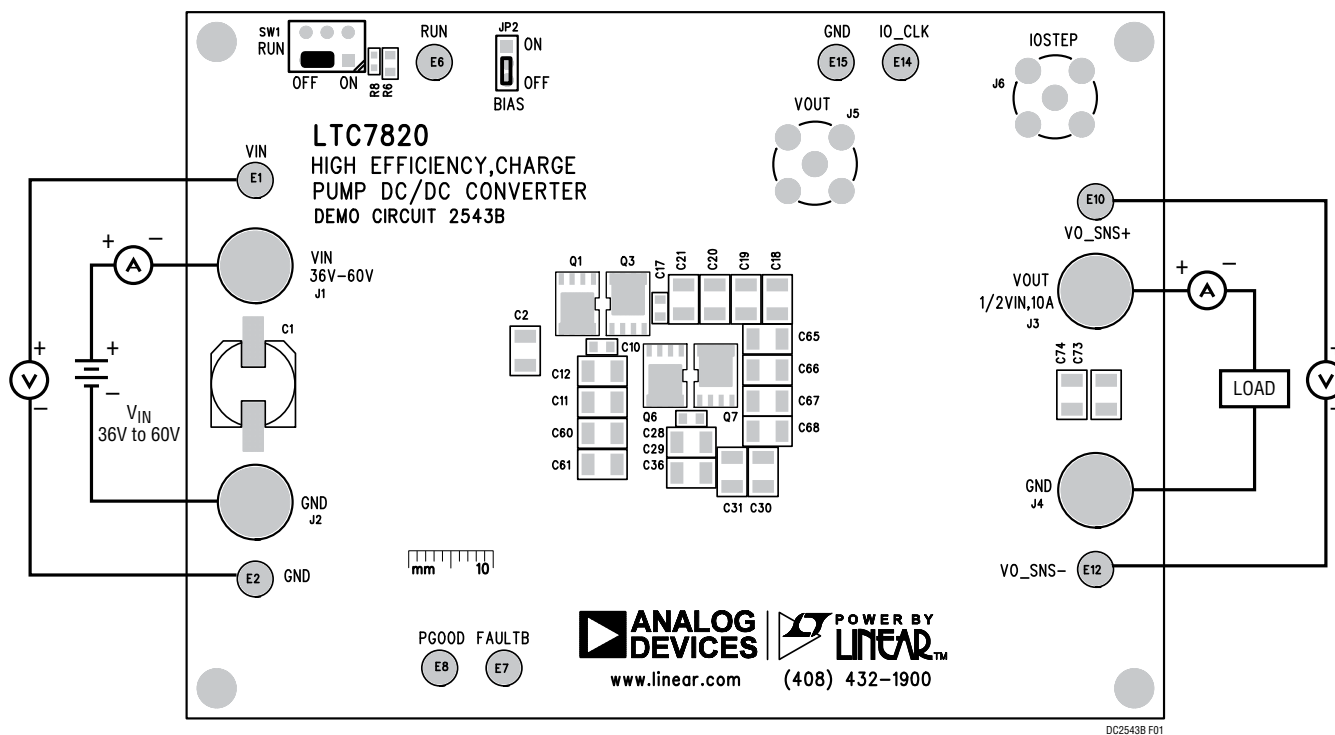

Figure 1. Proper Measurement Equipment Setup
Demonstration circuit 2543B is easy to set up to evaluate the performance of the LTC7820. Refer to Figure 1 for the proper measurement equipment setup and follow the procedure below.
2. Connect the output loads between V_{OUT} and GND (Initial load: no load). Refer to Figure 1.